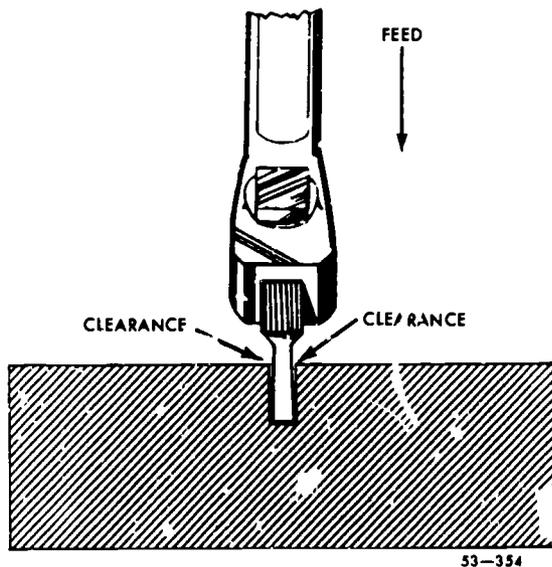
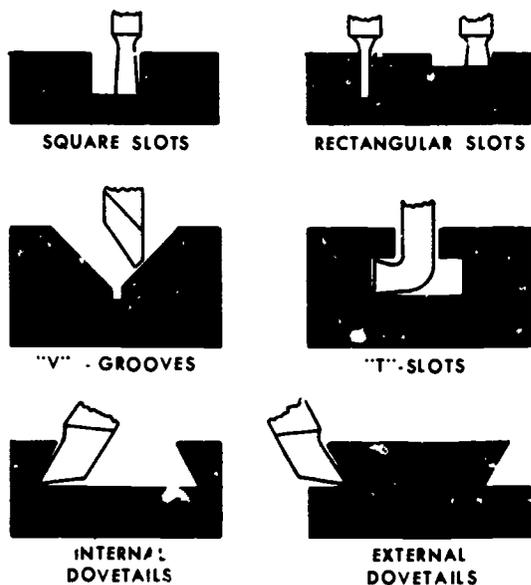
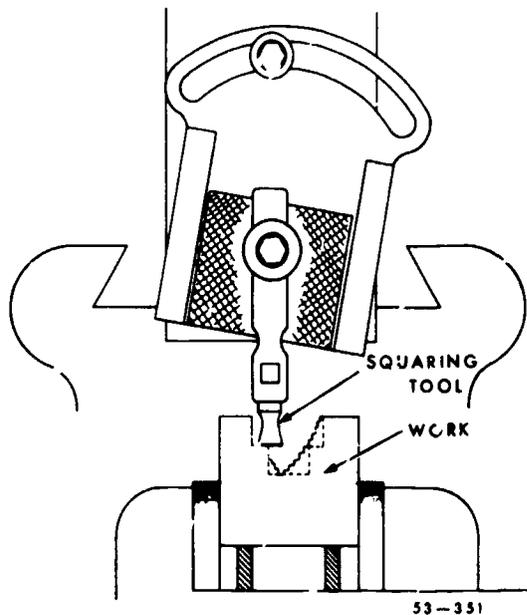

Figure 34. Cutting off tool.
Figure 56. Slots and grooves.
Figure 57. Machining a wide groove.
g. Parting. The *parting tool* is similar to the squaring tool, except that it is much narrower. You use it to part work, as shown in figure 34.
**5-9. Slots and Grooves.** You can machine small slots and grooves with form tools, as shown in figure 56. Or you can rough out large slots and grooves with a roundnose tool and finish machine them with squaring tools, as shown in figure 57. Use square-nose tools to finish square and rectangular slots. Use left- and right-hand side finishing tools to finish machine V-slots. You can cut off or part work with a shaper by simply machining a narrow slot deep enough to separate the work. Use a shaper parting tool, such as the one shown in figure 34, for parting. Grind shaper parting tools identical to the squaring tool shown in figure 31, except for the width of the cutting edge. The cutting edge on shaper parting tools should be from  $\frac{1}{8}$  inch to  $\frac{3}{16}$  inch wide. CAUTION: Do not attempt to part work or machine deep grooves parallel with vise jaws.